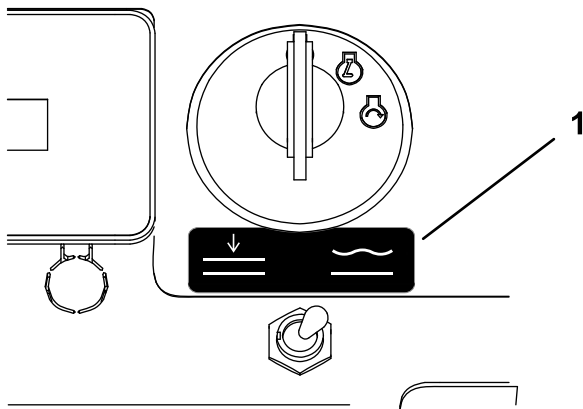

Figure 7
- Install the decal in front of the switch (Figure 7).